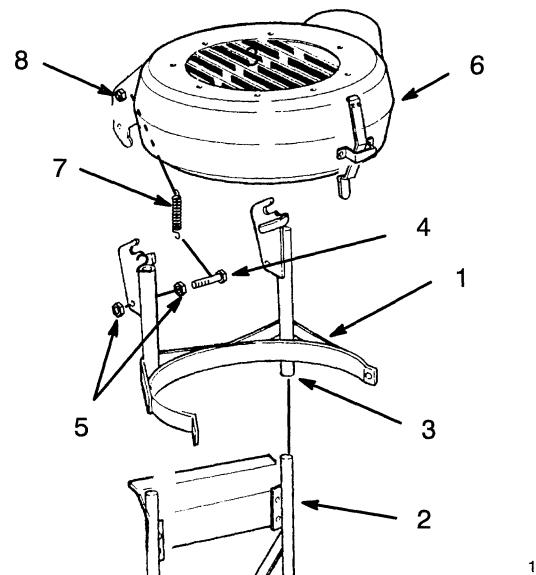

**Figure 10**
19. Assemble lower canister support into bagger mount with 1/2-13 x 4 in. bolt and lock nut (Fig. 10).
20. Assemble the heat shield to the bagger mount with (4) 5/16-18 x 5/8 in. bolts, flat washers and lock nuts (Fig. 10).
21. Install the bagger mount to the frame of tractor using (1) 1/2-13 x 1 in. bolt and lock nut through the rear hitch, and (2) 3/8-16 x 2-1/4 in. bolts and lock nuts at frame cross member (Fig. 10).
22. Lock the lower canister support in storage or operating position with the hairpin cotter (Fig. 10).